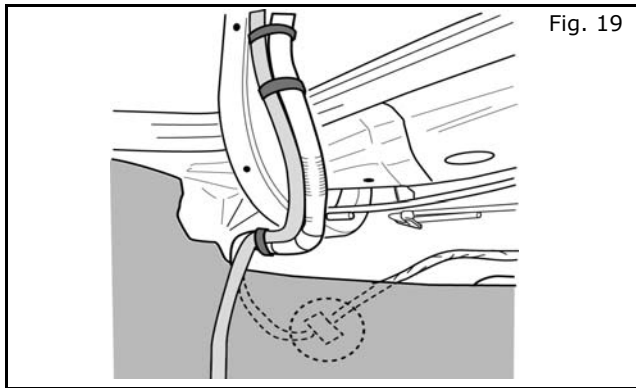

Fig. 19
18) Locate the large wire harness bundle behind the trunk trim under the driver side trunk hinge arm. Disconnect 20-way Inline Connector. (Fig. 19)